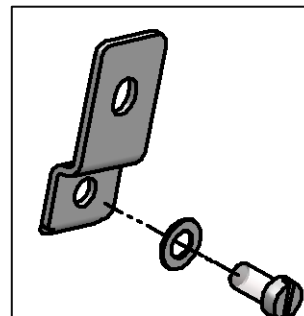

Fig. 5-2 Wall mounting set
- Mount the electric stunner with our wall mounting set* (Fig. 5-2) at a height of at least 1.6 m.